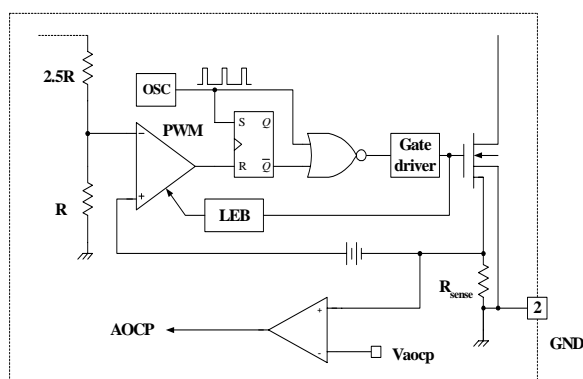

Figure 14. AOCP block
4.2 Abnormal Over Current Protection (AOCP) : When the secondary rectifier diodes or the transformer pins are shorted, a steep current with extremely high di/dt can flow through the SenseFET during the LEB time. Even though the FSCQ1565RT has OLP (Over Load Protection), it is not enough to protect the FSCQ1565RT in that abnormal case, since sever current stress will be imposed on the SenseFET until OLP triggers. The FSCQ1565RT has an internal AOCP (Abnormal Over Current Protection) circuit as shown in Figure 14. When the gate turn-on signal is applied to the power Sense FET, the AOCP block is enabled and monitors the current through the sensing resistor. The voltage across the resistor is then compared with a preset AOCP level. If the sensing resistor voltage is greater than the AOCP level, the set signal is applied to the latch, resulting in the shutdown of SMPS. This protection is implemented in latch mode.